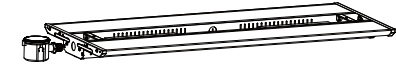

Figure 10
- Step2.Knock out the side cover, mount the sensor on the side, do wiring according to instruction on sensor (Figure 10).